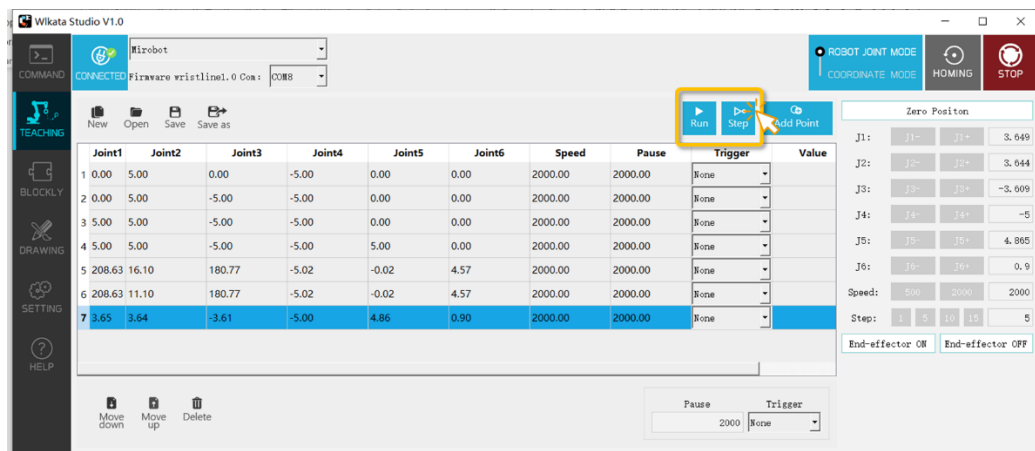

Figure 3.26 The continuous run and single-step run of teaching points in the TEACHING page
(7) Click **Run** button in the panel to realize the whole recurrence of the recorded teaching points in the list. Click the **Step** button in the panel to realize the single-step movement of the recorded teaching point one-by-one in the list. As shown in Figure 3.26.